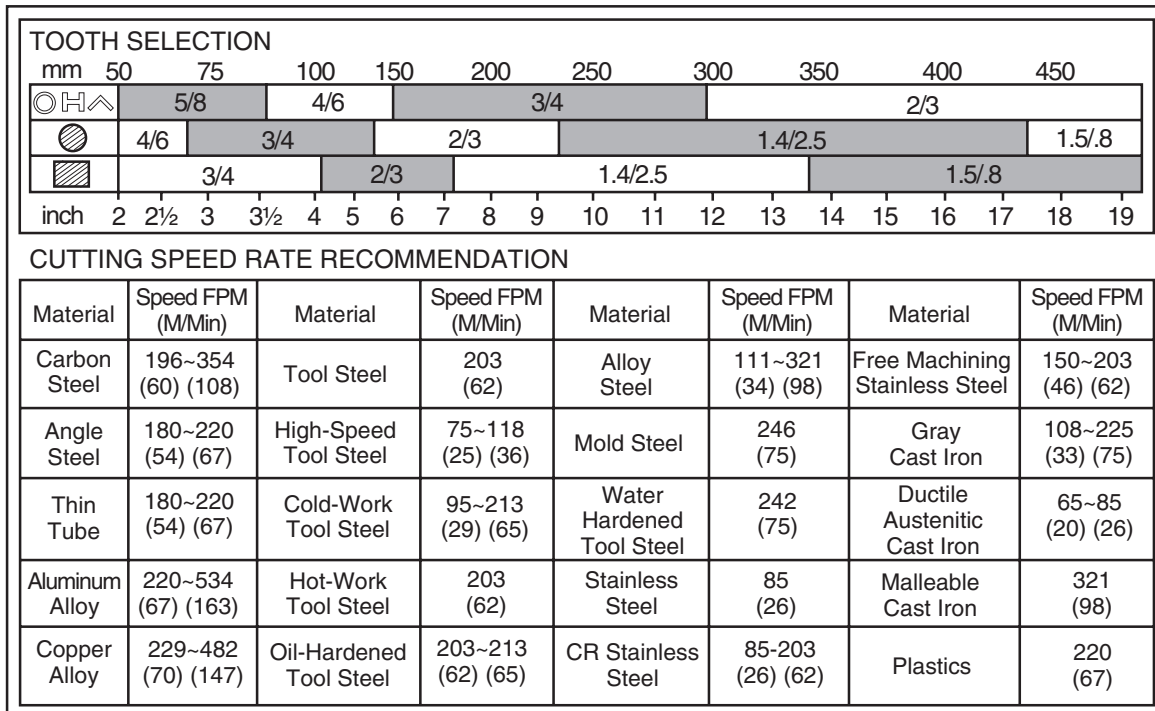

Figure 21. Blade selection chart.
2. Refer to the "Material Thickness" row of the blade selection chart in **Figure 21**, and read across to find the workpiece thickness you need to cut.